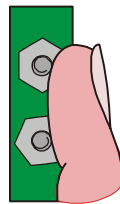

Figure 3-6
- ✓ Now touch the two leads of the conductivity sensor at the same time with your fingers as shown in Figure 3-6